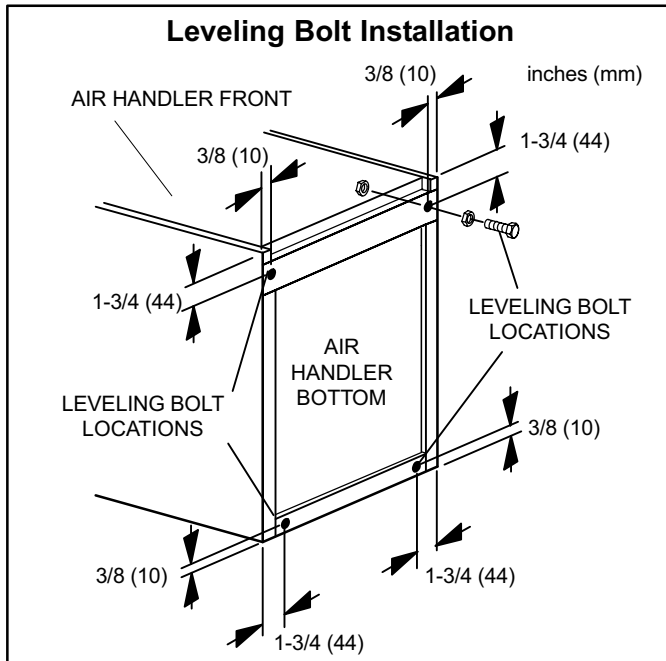

Figure 6
Leveling an Upflow Unit—When the side return air inlets are used in an upflow application, it may be necessary to install leveling bolts on the bottom of the air handler. Use field-supplied corrosion-resistant 5/16 inch machine bolts (4) and nuts (8). See figure 6.
1. Lay the air handler on its back and drill a 5/16 inch diameter hole in each corner of the air handler's bottom. See figure 6 for the correct location of the holes. Drill